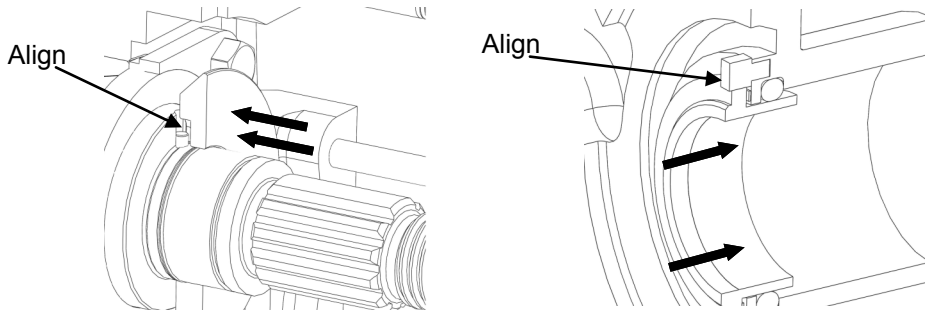

Figure 34: Single Mechanical Seal Assembly
*Assembly:* Clean both shaft ends and the body before assembling. Apply a light film of lubricant to NEW o-rings and insert them on the shafts (slot furthest from splines), and into the body. Slide the rotating seal onto shaft by pushing it against the shaft shoulder making sure to align the slot on the seal to the drive pin on the shaft (Figure 34). Place the wave springs onto the stationary seals and install them into the back of the body making sure the slot on the seal lines up with the pin on the back of the body. Make sure all seal faces are clean. See Pump Assembly on page 31 to continue.